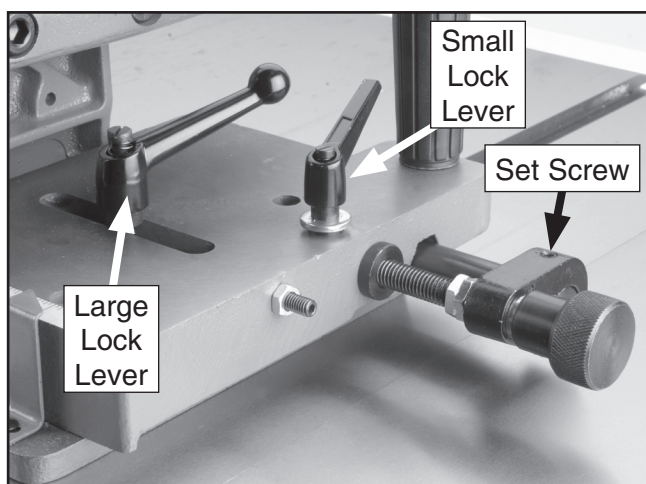

Figure 5. Assembled jig.
2. Loosen the small lock lever and remove the large lock lever (see **Figure 5**).
4. Use the 3mm hex wrench to loosen the set-screw shown in **Figure 5**.